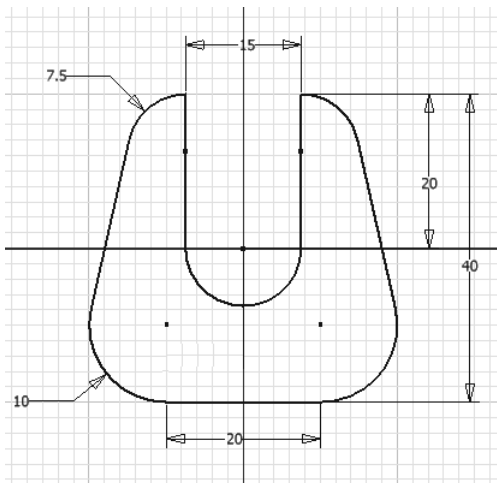

Figure 3-57 Dimensioned sketch for Tutorial 3
- Add the required dimensions and constraints to the outer loop, refer to Figure 3-57.
With this, all dimensions are applied to the sketch (see Figure 3-57), except the horizontal dimension between the center points of arcs 4 and 6 or arcs 8 and 6. The need of these dimensions depends on the constraints and dimensions assumed while drawing the sketch. If the sketch gets over-constrained, the **Autodesk Inventor 2011** message box is displayed. Choose **Cancel** from the message box. In this case, this dimension has already been assumed.